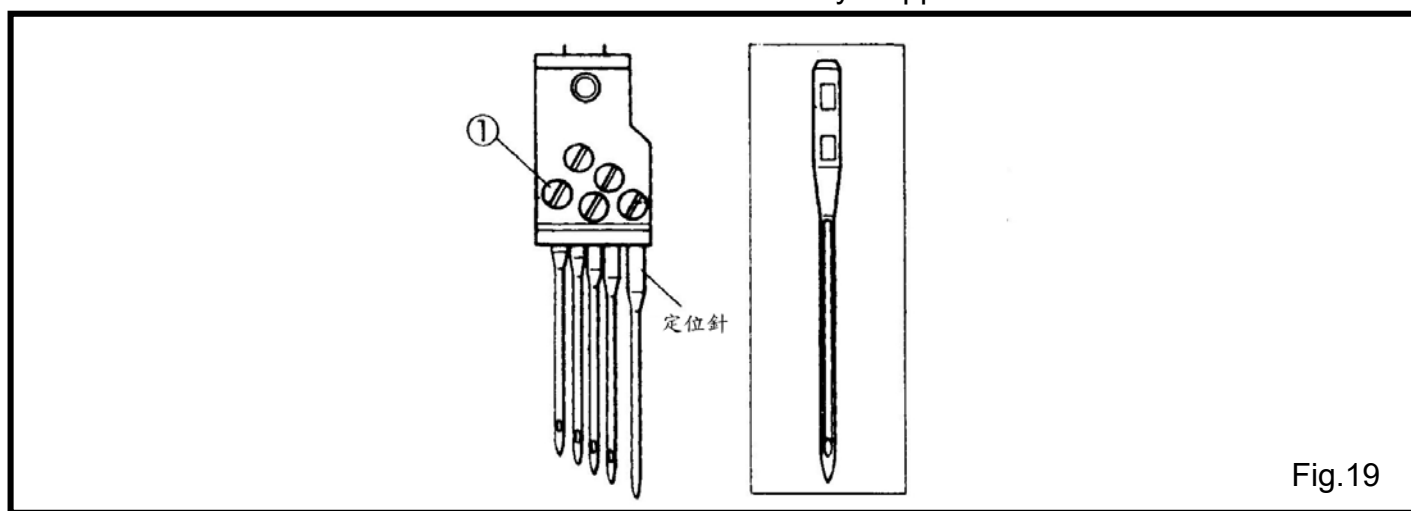

Fig.19
- (1) 旋轉轉輪將針抬到最高點。
- (2) 放鬆螺絲①。(Fig.19)
- (3) 平面擺在前方將新針放入針鉗內最頂端，然後鎖緊螺絲①。
- (1) Rotate the handwheel to raise the needles at the highest point.
- (2) Loosen the screws① and pull the needles down.(Fig.19)
- (3) Face the flat parts front, insert new needles into the needle clamp as far as they will go. Tighten them with the screws① securely.